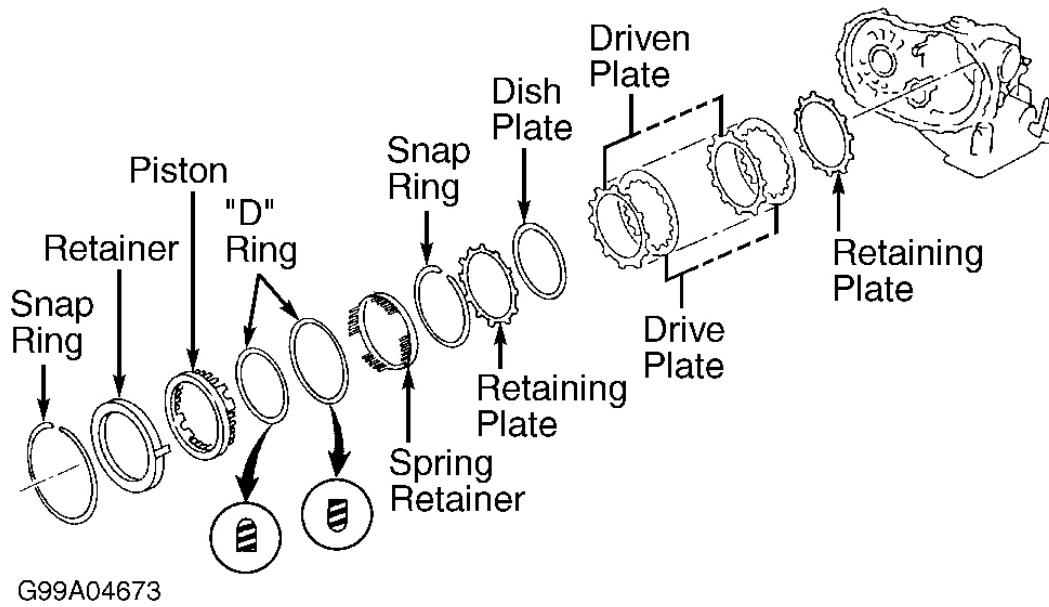
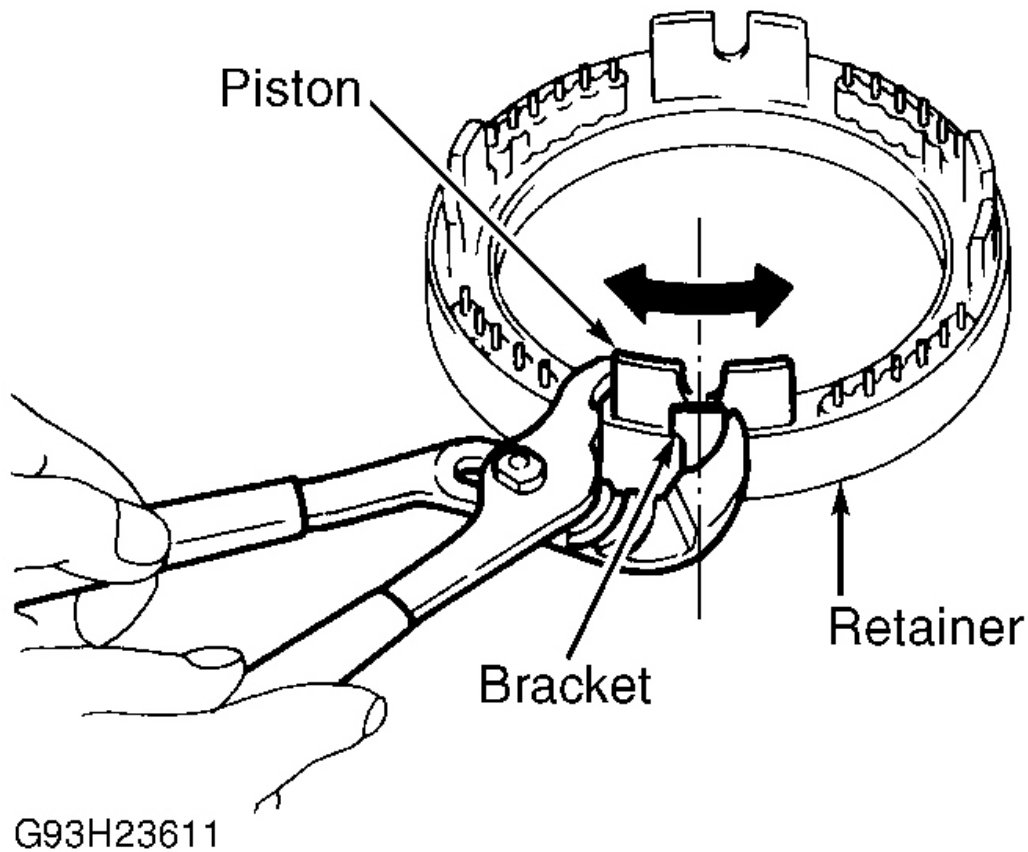

Fig. 38: Exploded View Of Low-Reverse Brake
Fig. 40: Aligning Low-Reverse Brake Piston With Spring Retainer
Position transaxle case to obtain access to low-reverse brake snap ring. Remove snap ring. Remove retaining plate, dish plate, drive plates and driven plates from transaxle case. See **Fig. 38**. Record number of plates for reassembly reference. Apply compressed air to oil hole of piston retainer to remove piston. See **Fig. 37**. Remove "D" rings from piston.
2. Lubricate "D" rings with ATF, and install on low-reverse brake piston. Ensure "D" rings are installed in correct direction. See **Fig. 38**. Ensure piston bracket is aligned with retainer bracket. See **Fig. 40**.